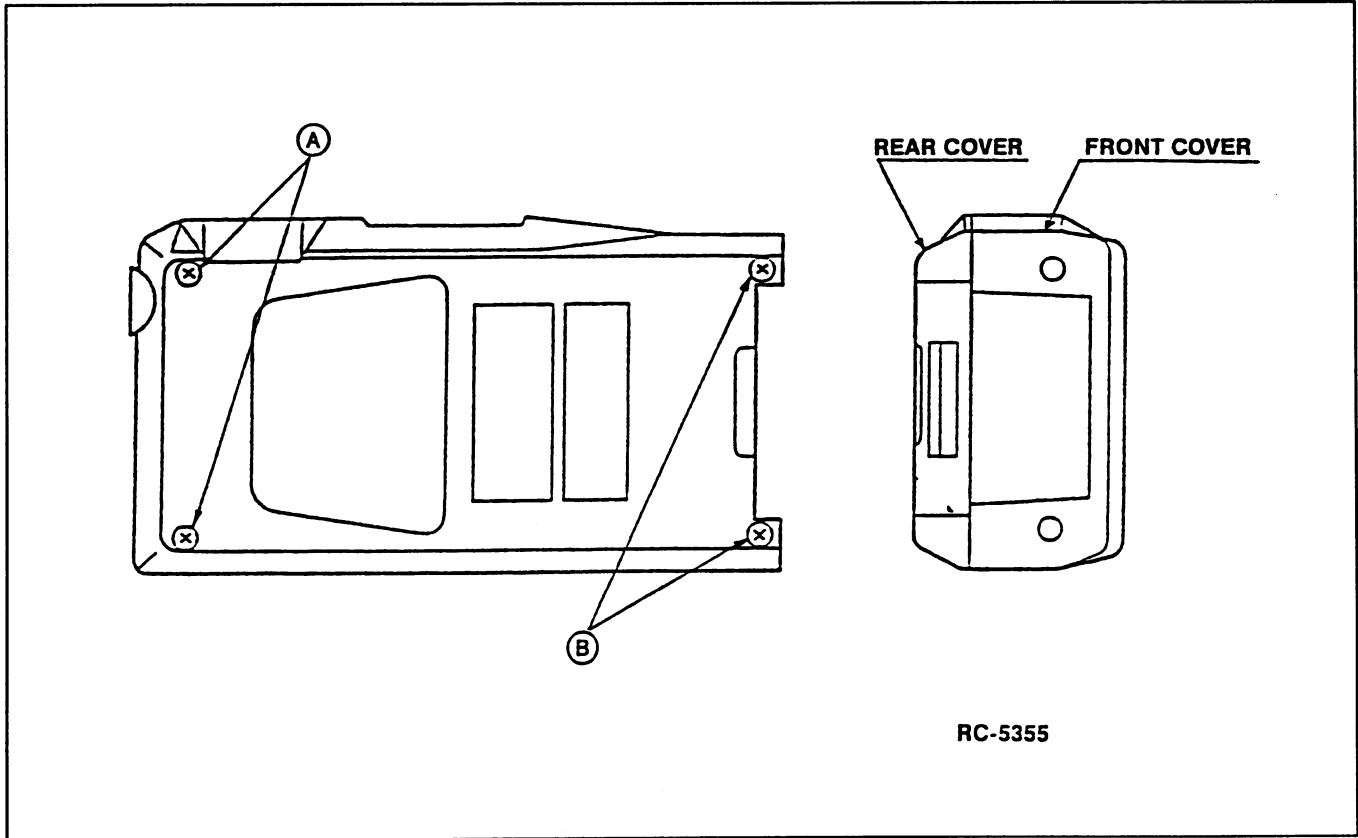

FIGURE 12 - DISASSEMBLY STEP 1
1. Loosen, but do not remove, the four screws shown at [A] and [B] (Figure 12).